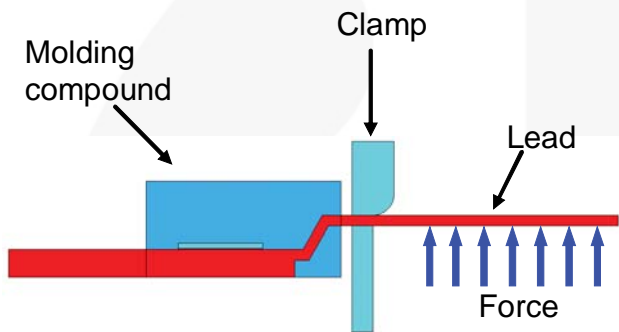
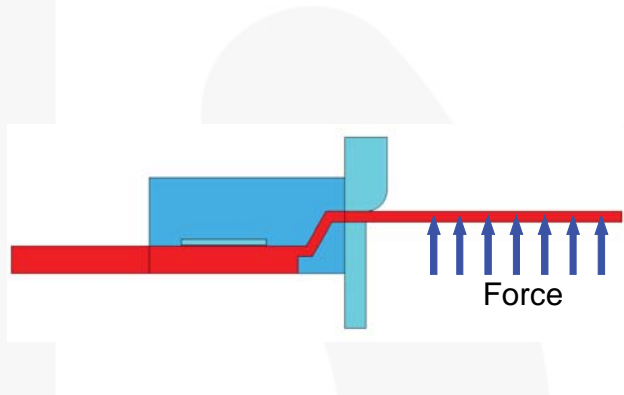
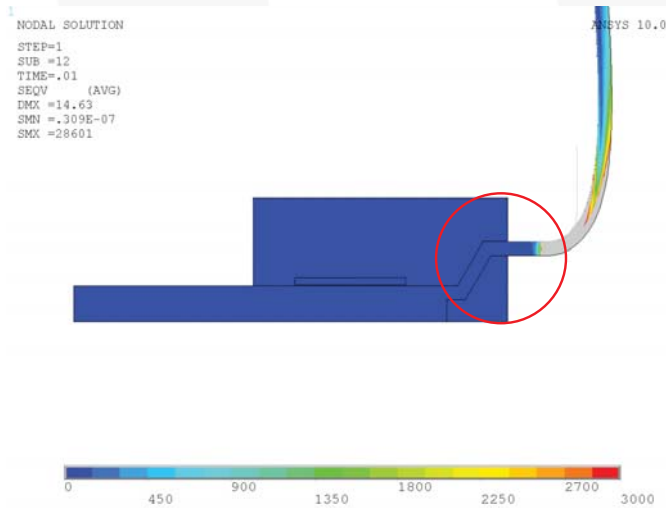
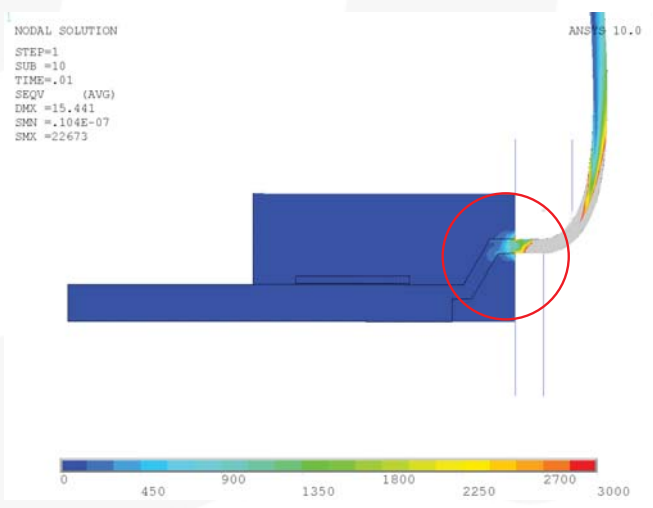

Figure 4. Normal Leadforming
Figure 5. Abnormal Leadforming (Clamps Contact Molding Compound)
Figure 6. Stress Distribution, Normal
Figure 7. Stress Distribution, Abnormal
- Ensure the body of the device is allowed to float free during the bending process. Failure to do so induces mechanical shock into the package through the leads. This can be verified through finite element analysis. When clamps come in contact with molding compound and clamping force is not strong enough to grip lead tightly (Figure 5), high stress is applied at lead and molding compound (Figure 7), while normal clamping does not create any stress in molding compound and adjacent lead (Figure 4 and Figure 6).